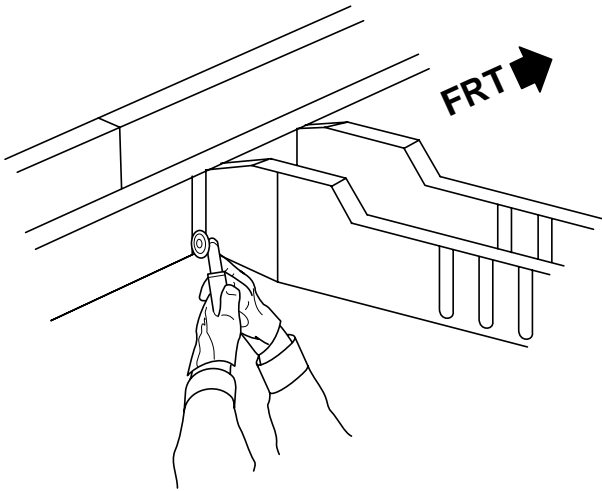

Fig. 1-22 — Cut the Rail for Sectioning
- Cut the service rail along the marked lines and discard the unused section (Fig. 1-22).